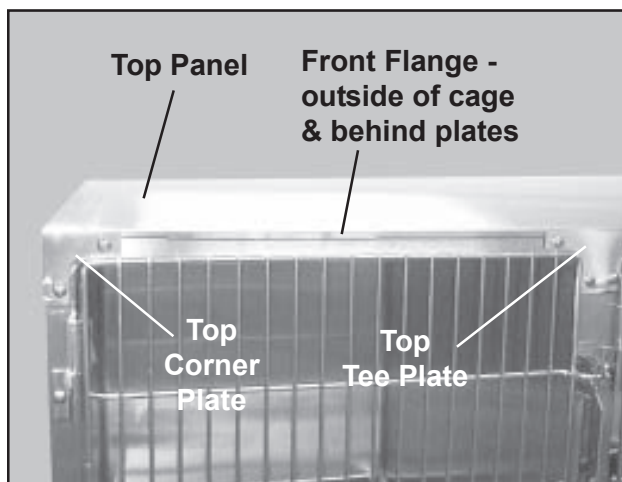

Figure 48. Top Panel - Front View
- the front flange (3/8 in.) fits between the cages and the top corner and tee plates (Figure 48).